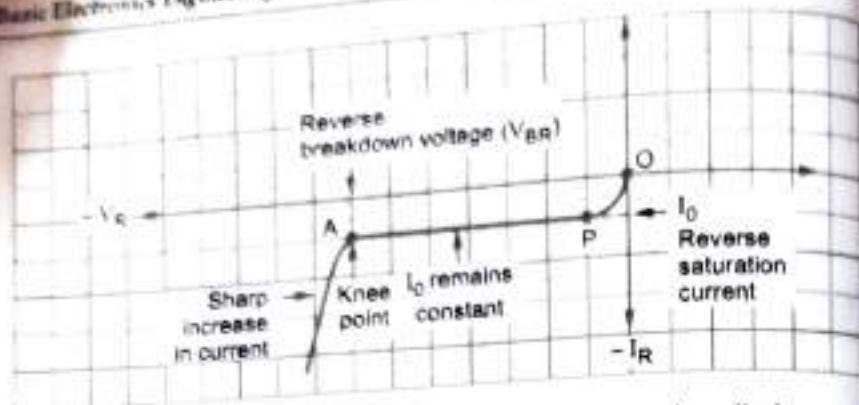

Fig. Q.22.2 Reverse characteristics of p-n junction diode
- As the reverse voltage is increased, reverse current increases initially but after a small voltage becomes constant equal to reverse saturation current  $I_0$ . This point is shown as P, in the Fig. Q.22.2.